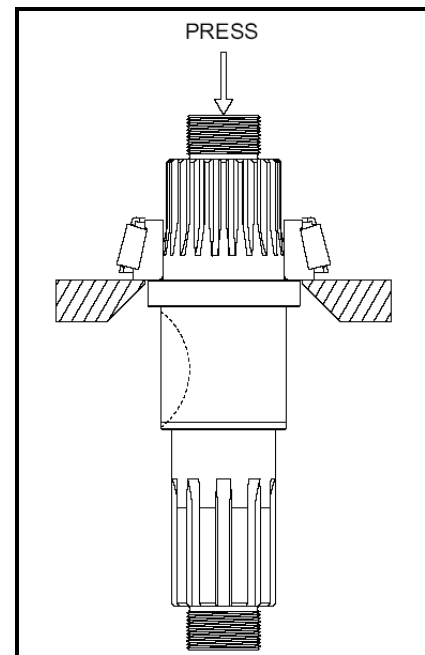

Figure 32
- 5) To remove the remaining bearing cone assembly, support under the cone with a bearing separator and press the shaft through the cone. See **Figure 32**.